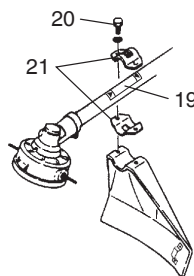

Fig. 8
Aligning to the position indicated by the guard location label (19), firmly secure the cutting attachment guard to the drive shaft tube with the bolt (20) and guard bracket (21). (Fig. 8)